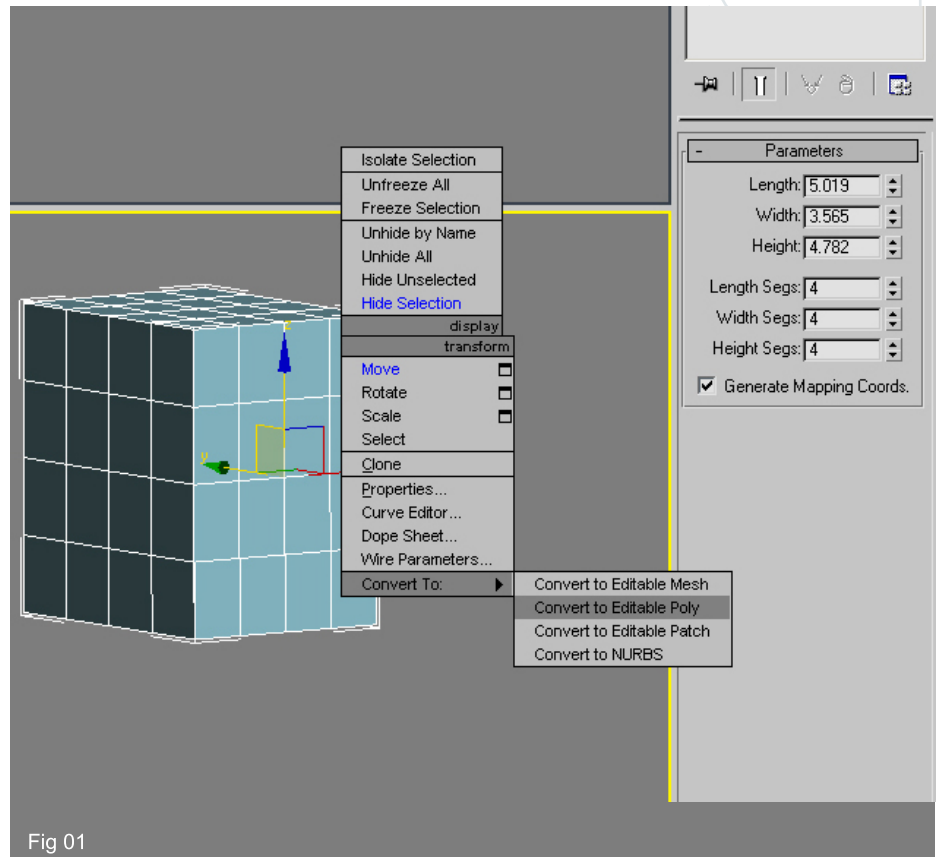

Fig 01
1. The first step is to create a box with 4 length, width and height segments as shown on the right in Fig01. You will notice that the "Generate Mapping Coords" box is checked but as we are going to map our mesh later on this is not important here. Right click on the box and select "Convert to Editable Poly" from the dialogue box.